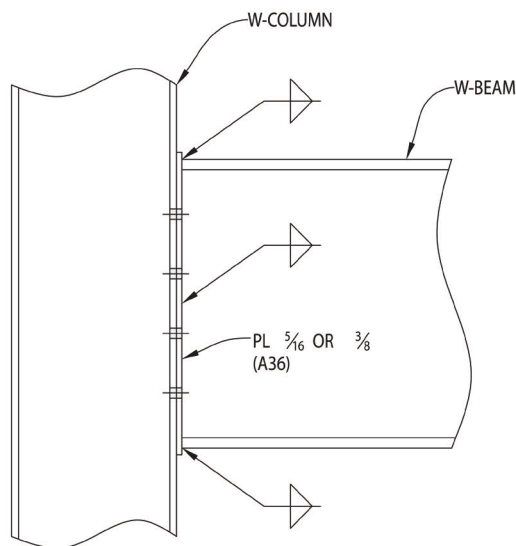

Figure 1. End-Plate Connection for Torsion
15. Don't use fully restrained moment connections to resist torsion. Typically, a $\frac{5}{16}$ -in. or $\frac{3}{8}$ -in. end plate shop-welded to both flanges or bolted flange angles will provide adequate strength. Note that connection flexibility can be provided by keeping bolts at the end plate between the flanges, or using snug-tight bolts in the slotted holes in horizontal legs of flange angles. (Figures 1 and 2 illustrate these connection concepts.)